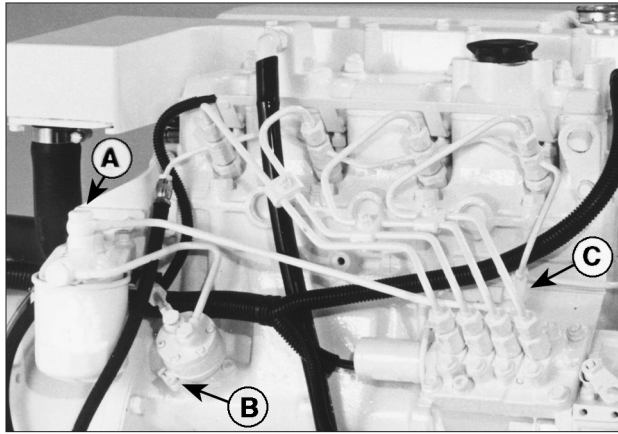

Figure 9: M844 Fuel System (for illustration purposes).
2. Loosen bleed bolt "A" (Figure 9) on top of the filter. Pump hand primer "B" on fuel lift pump until pure fuel (no bubbles) escapes from bleed bolt "A". Tighten bleed screw "A".